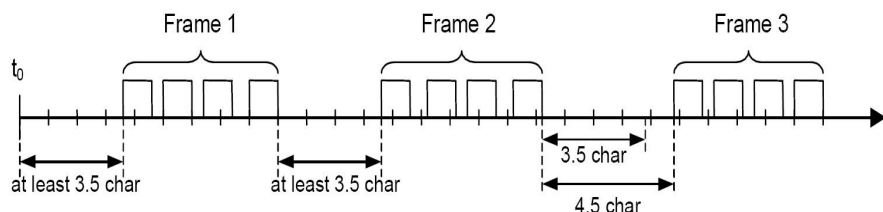

Fig.38 Modbus Frame Interval
- (1) T1-T2-T3-T4 is the starting or ending of a frame. MODBUS protocol specifies that a frame start or end is determined by an inter-frame delay equivalent to 3.5 character times, as shown in figure 38.